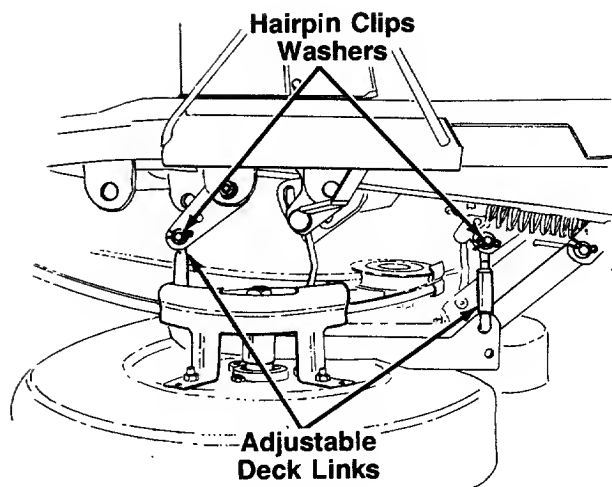

FIGURE 13.
3. Disconnect the adjustable deck links from the deck lift pivot brackets on the left side of the unit by removing the hairpin clips and flat washers. See figure 13.
1. Remove the hex nut and lock washer, and drop the tie rod end from the wheel bracket. See figure 13.